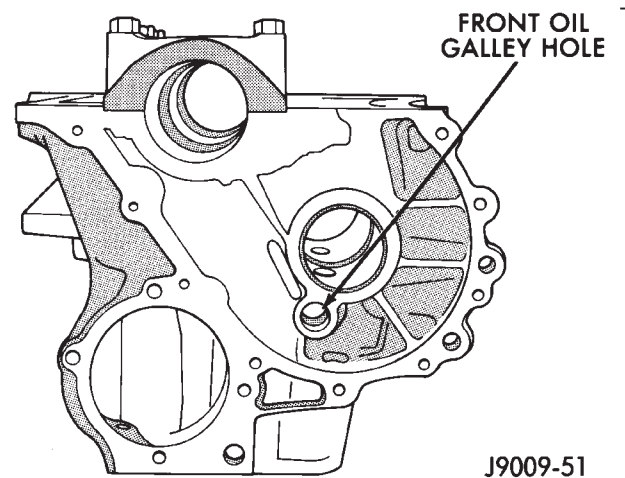
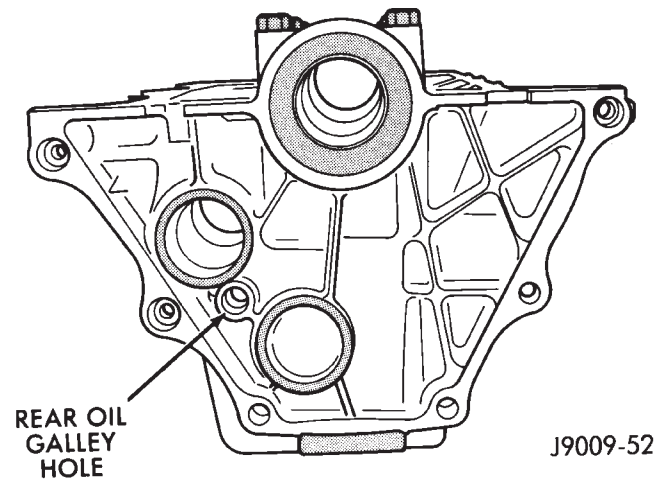

Fig. 70 Front Oil Galley Hole
Fig. 71 Rear Oil Galley Hole
- The front and rear oil galley holes (Fig. 70) (Fig. 71).